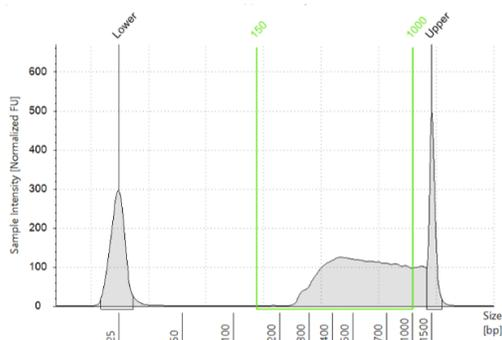

Figure 1. An example of a cleaned-up library profile from a TapeStation High Sensitivity D1000 ScreenTape assay.
3. To determine the library concentration, set the Region on the Bioanalyzer or TapeStation analysis software from 150 bp to 1000 bp. Record sample Concentration (nM) for this region (see Figure 1). At least 1 nM should be expected. To determine the library size, set the Region from 150 bp to 3000 bp – record sample Average Size (bp) as Library Size. A good-sized library should have most library fragments under 1000 bp.